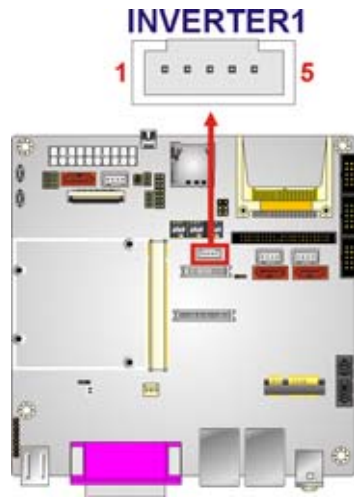

Figure 4-3: Backlight Inverter Connector
- CN Location:** See Figure 4-3